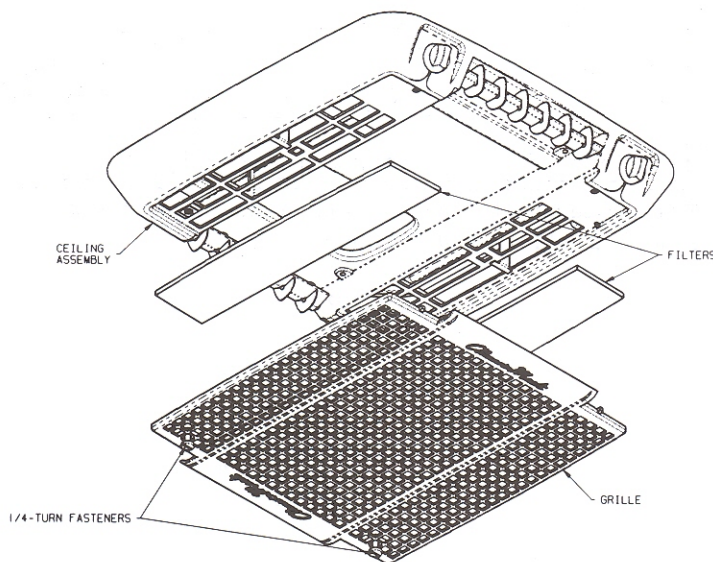

FIGURE 2
1. Disengage the two 1/4-turn fasteners that secure the ceiling assembly grille to the ceiling assembly (See Figure 2).
3. Take filters out and either clean or exchange with other filters (See Figure 2).